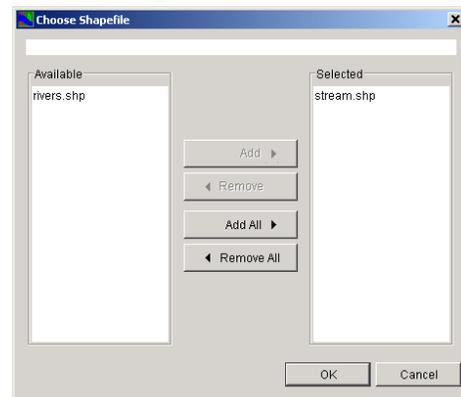

Figure 5.24 Choose Shapefile Dialog Box
6. The **Choose Shapefile** dialog box (Figure 5.24) will open. In the **Available** box, is a list of the available polyline shapefiles that you have added as map layers. In the **Selected** box, is the polyline shapefile that has been chosen. To choose a different polyline shapefile, use the **Add** and **Remove** buttons to get the correct shapefile. In Figure 5.24, the polyline shapefile to be used for importing the stream alignment is *stream.shp*.